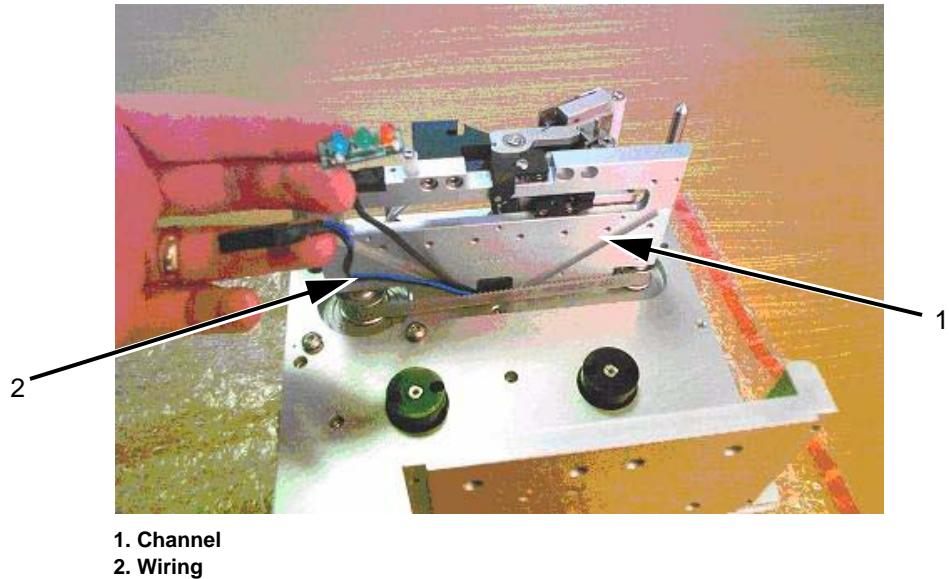

Figure 5-63: Wiring Removal
- 7 Remove the wiring from the channels (Figure 5-63).